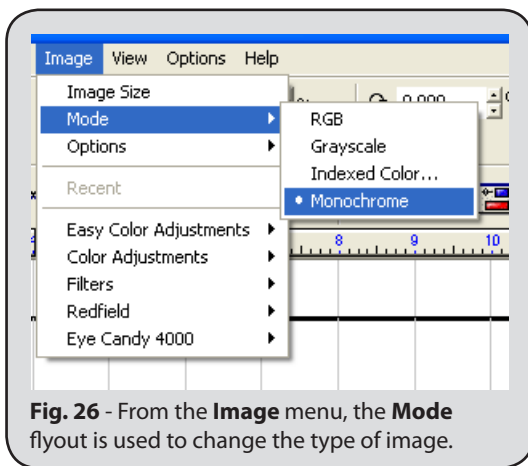

Fig. 26 - From the **Image** menu, the **Mode** flyout is used to change the type of image.
2. Choose **Image** menu >> **Mode** >> **Monochrome** (Fig. 26).